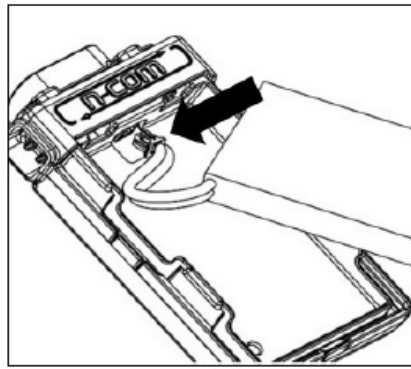

Fig. 2
- Connect the battery to the port (Fig. 2), taking care to insert it correctly. If necessary use the provided flathead screwdriver to insert the battery connector fully into the port.